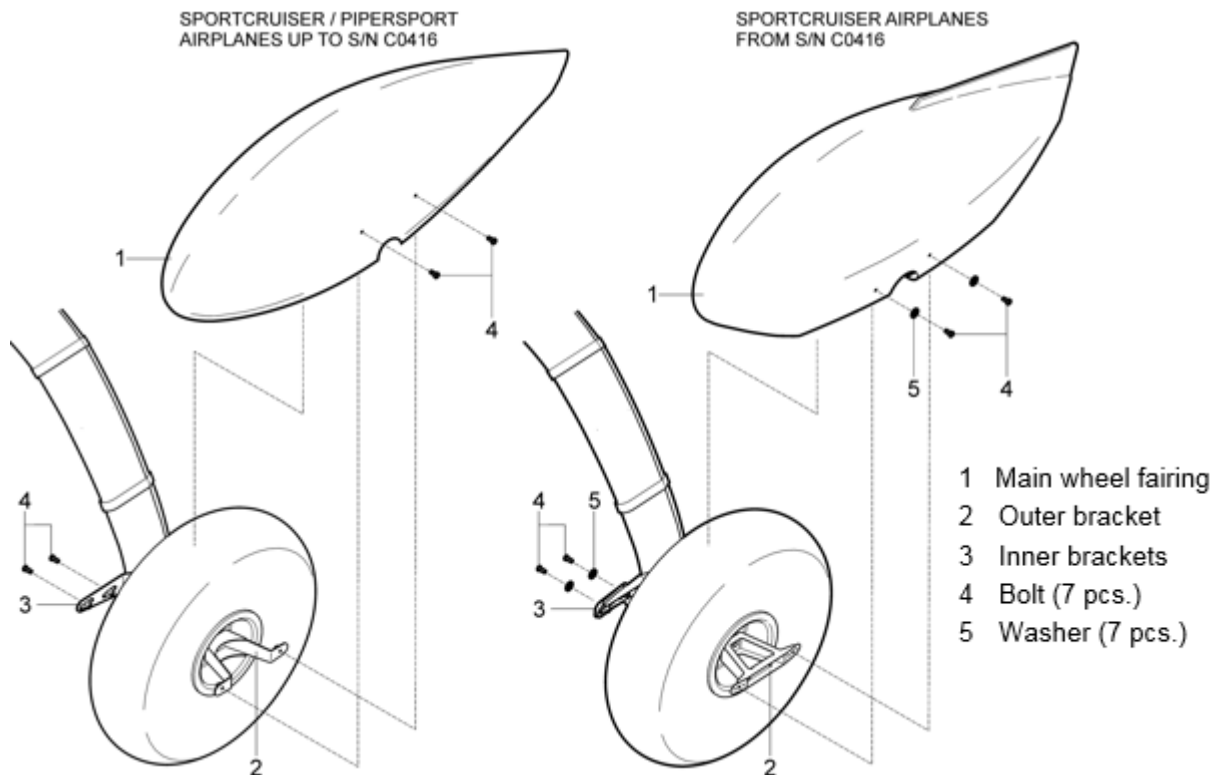

Fig. 8-6: Main wheel fairing removal / installation
(a) Unscrew the bolts (4, Fig. 8-6) with the washers (5) (if used) attaching the wheel fairing (1) on the brackets (2; 3).
(a) Set the wheel fairing (1, Fig. 8-6) to appropriate position.